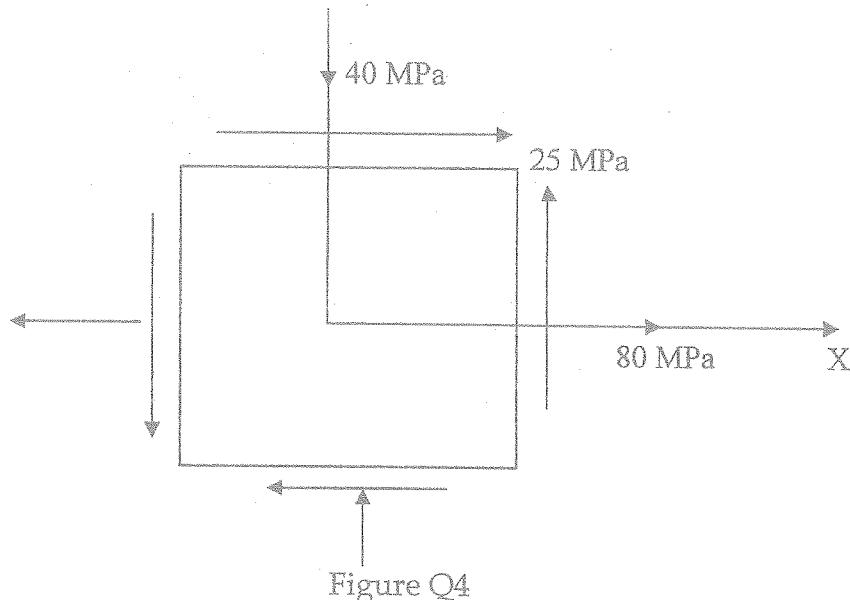

Figure Q4
- Q4. a) For the state of plane stress as shown in the Figure Q4, determine the followings using the transformation equations.